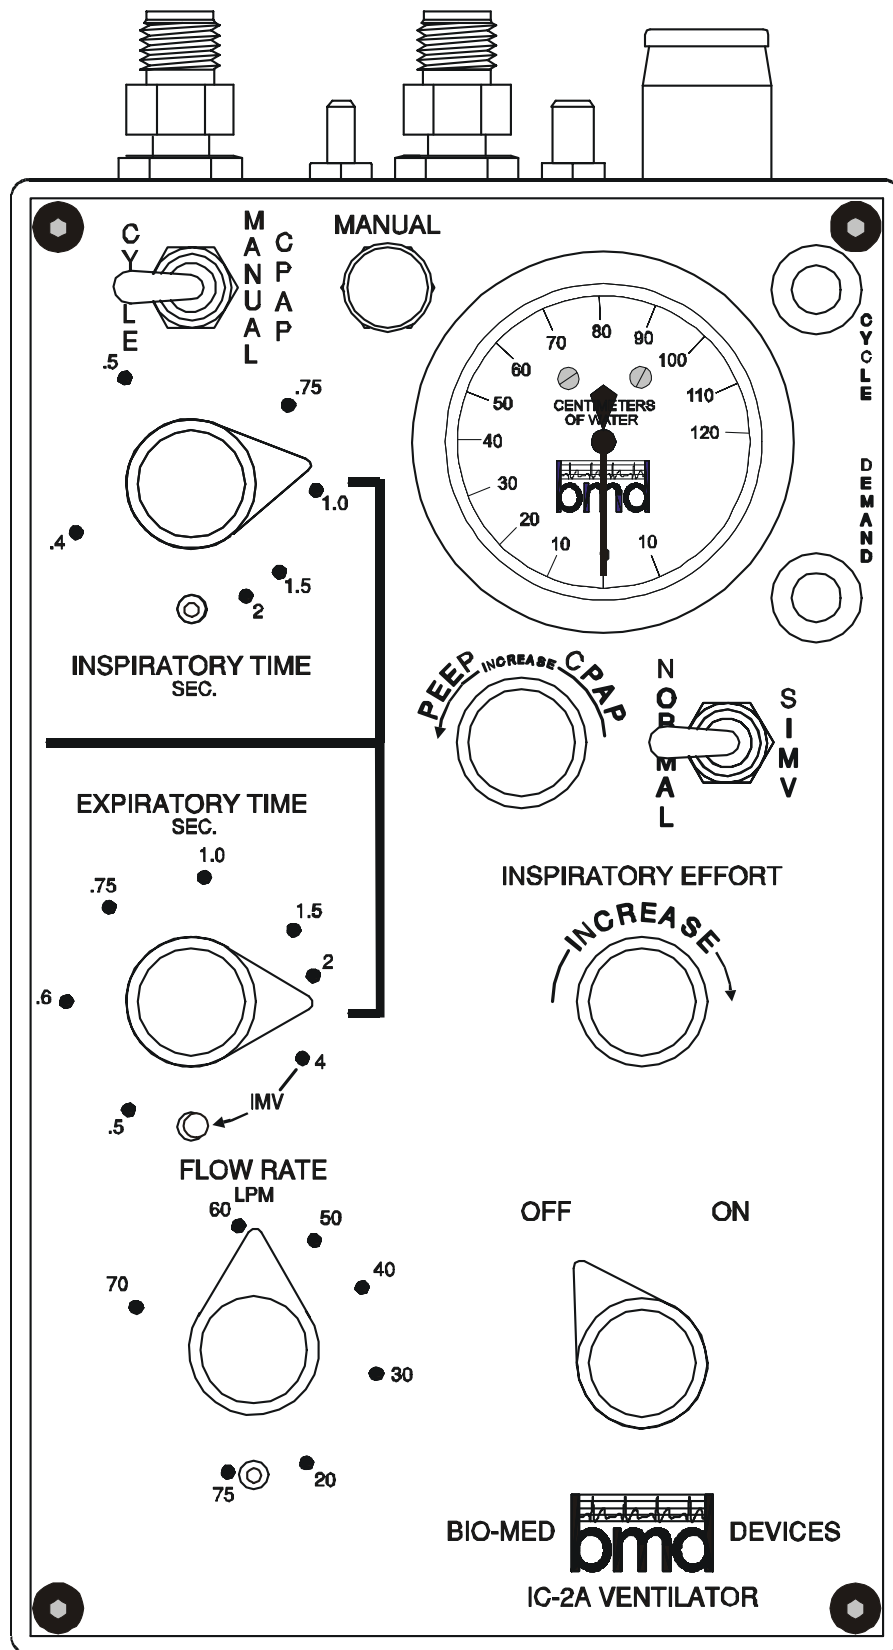

FIG. 1-1 IC-2A Ventilator
The IC-2A Ventilator (Figure 1-1) is a highly sophisticated, precision, pneumatic, life support device, built to rigid specifications.
- a. Front Panel – Table 1-1 lists the IC-2A Ventilator front panel controls and indicators and their functions. Refer to Figure 1-1.